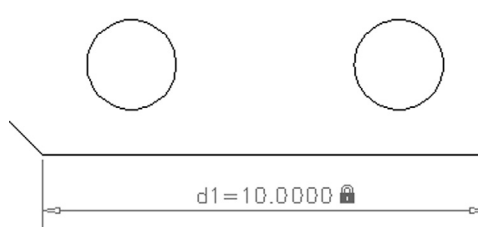

FIGURE 13.21
- AutoCAD displays the value ($d = 10.0000$) with a graphic of a lock, as seen in Figure 13.21. Press Enter.